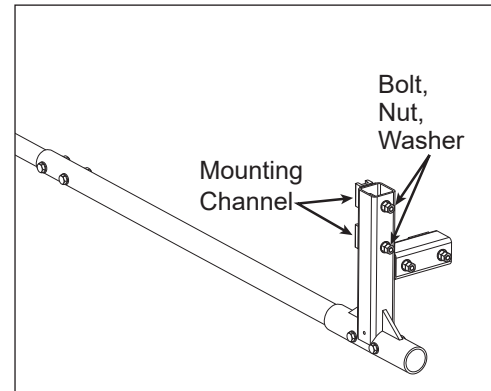

Figure 24: 10-20' Fixed Webcam Arm Mounting
3. Slide two of the mounting channels and bolts into the horizontal mounting channel on the display back. Refer to **Figure 24**.